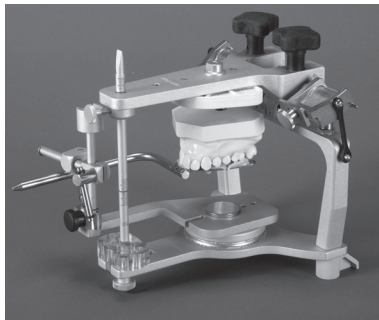

Figure 17
4. Position the upper model into the bite registration and mount the maxillary model. (Figure 17)